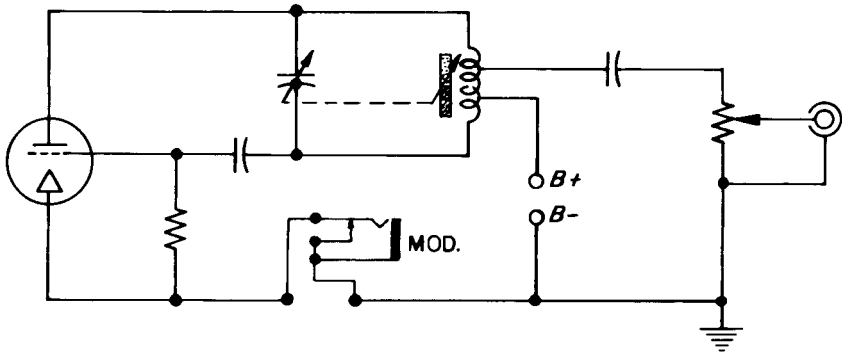

Figure 4. Elementary Schematic Diagram.
2.1 **CIRCUIT.** (See Figure 4.) The Hartley oscillator circuit is used in the Type 1211-B Unit Oscillator. The output control is tapped across a portion of the tuned circuit for the low-frequency range, and is coupled to the tuned circuit by a pickup coil for the high-frequency range. The tube is a Type 5763 nine-pin miniature beam-power amplifier tube.